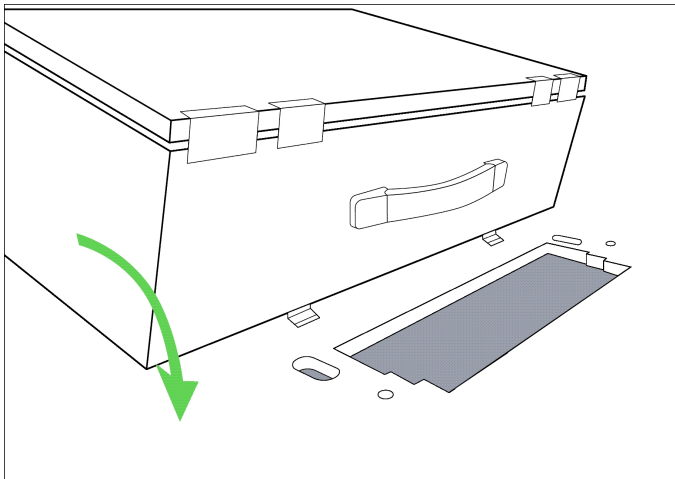

Figure 3-2. Aligning the voting station with the ballot cutout
3. Angle the voting station so that the front is tilted up and the back is touching the platform of the ballot box (Figure 3-2).